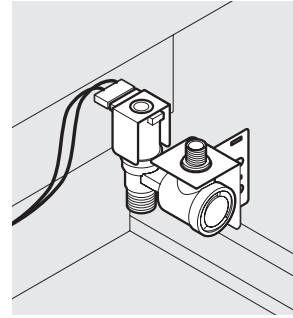

Figure 19
5. Connect wiring harness to water valve. Make sure connection is tight. See Figure 19.